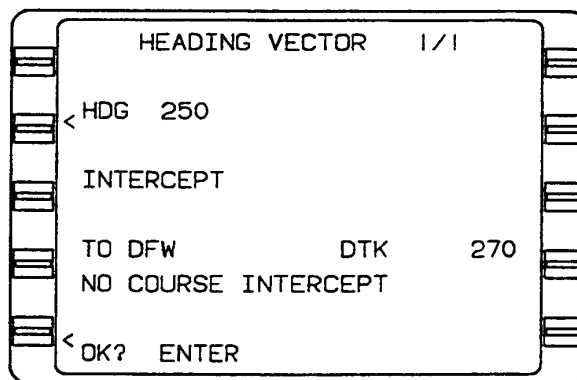

Figure 3A-43. Heading Vector 1/1 Page
(1) *Heading Vector 1/1 Page.* Refer to Figure 3A-43.